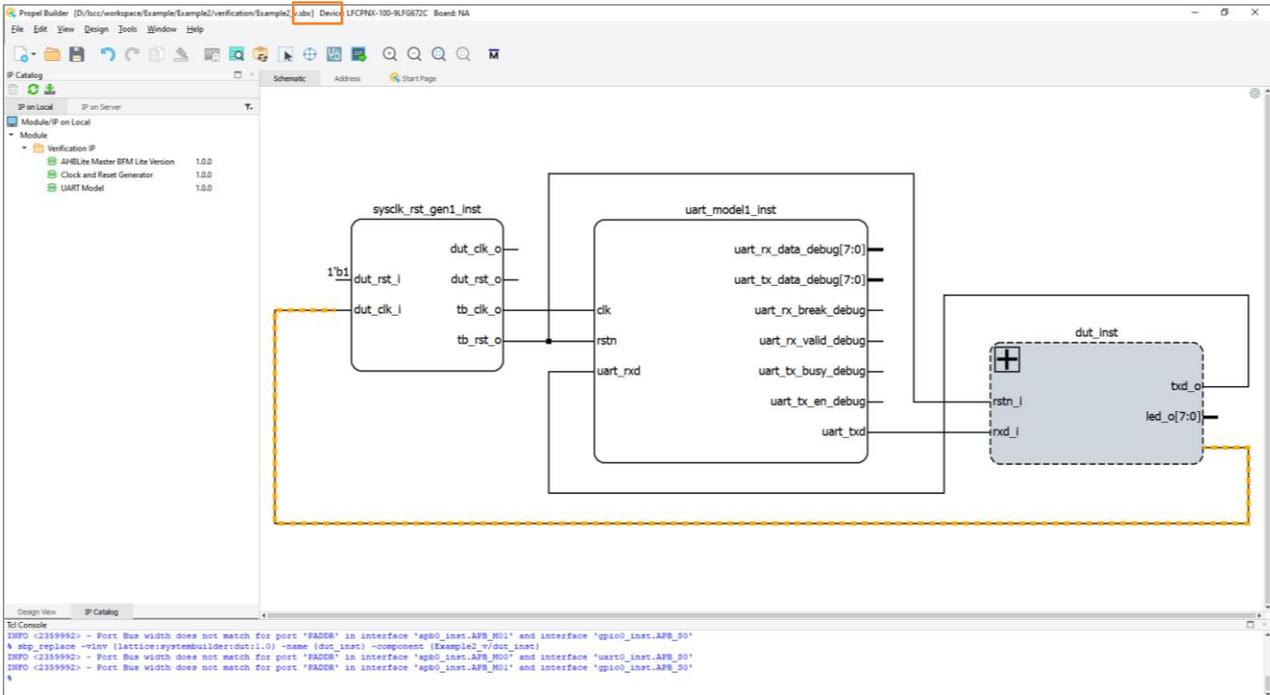

Figure 2.147. Verification Project
3. Click **Yes** to save the current design project. The Propel Builder GUI switches to verification project (Figure 2.147).
- If you want to go back and design more on SoC project, click **V/D** button  on the verification project window to go back to the SoC design project.(Figure 2.147)